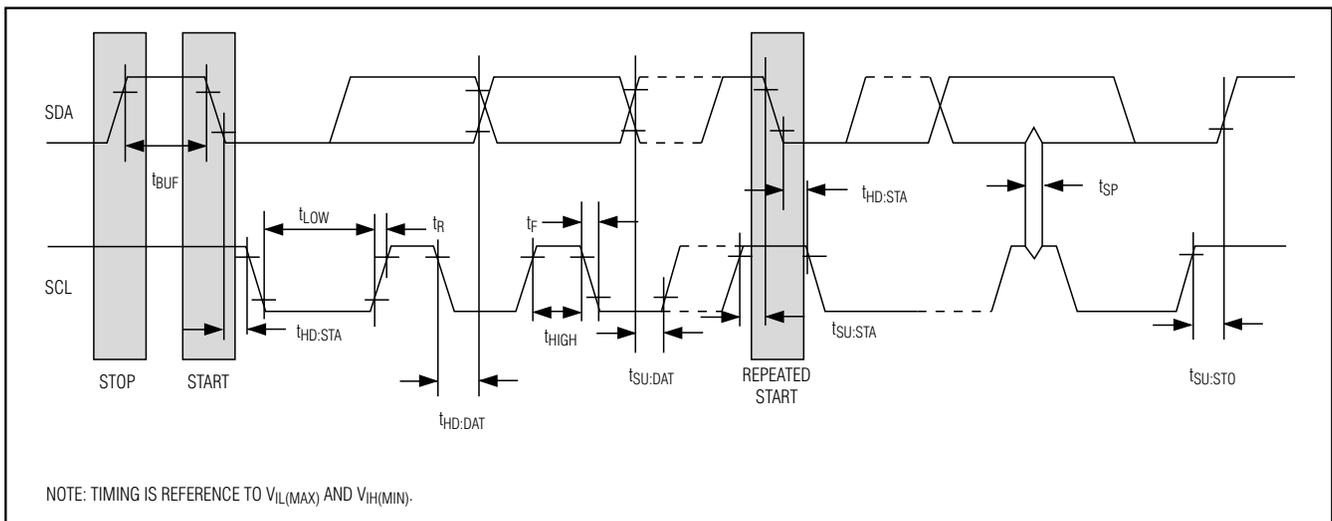

Figure 2. I2C Timing Diagram
**Bit Write:** Transitions of SDA must occur during the low state of SCL. The data on SDA must remain valid and unchanged during the entire high pulse of SCL plus the setup and hold time requirements (see Figure 2). Data is shifted into the device during the rising edge of the SCL.
**Bit Read:** At the end a write operation, the master must release the SDA bus line for the proper amount of setup time (see Figure 2) before the next rising edge of SCL during a bit read. The device shifts out each bit of data on SDA at the falling edge of the previous SCL pulse and the data bit is valid at the rising edge of the current SCL pulse. Remember that the master generates all SCL clock pulses including when it is reading bits from the slave.
**Acknowledgement (ACK and NACK):** An Acknowledgement (ACK) or Not Acknowledge (NACK) is always the 9th bit transmitted during a byte transfer. The device receiving data (the master during a read or the slave during a write operation) performs an ACK by transmitting a zero during the 9th bit. A device performs a NACK by transmitting a one during the 9th bit. Timing (Figure 2) for the ACK and NACK is identical to all other bit writes. An ACK is the acknowledgment that the device is properly receiving data. A NACK is used to terminate a read sequence or as an indication that the device is not receiving data.